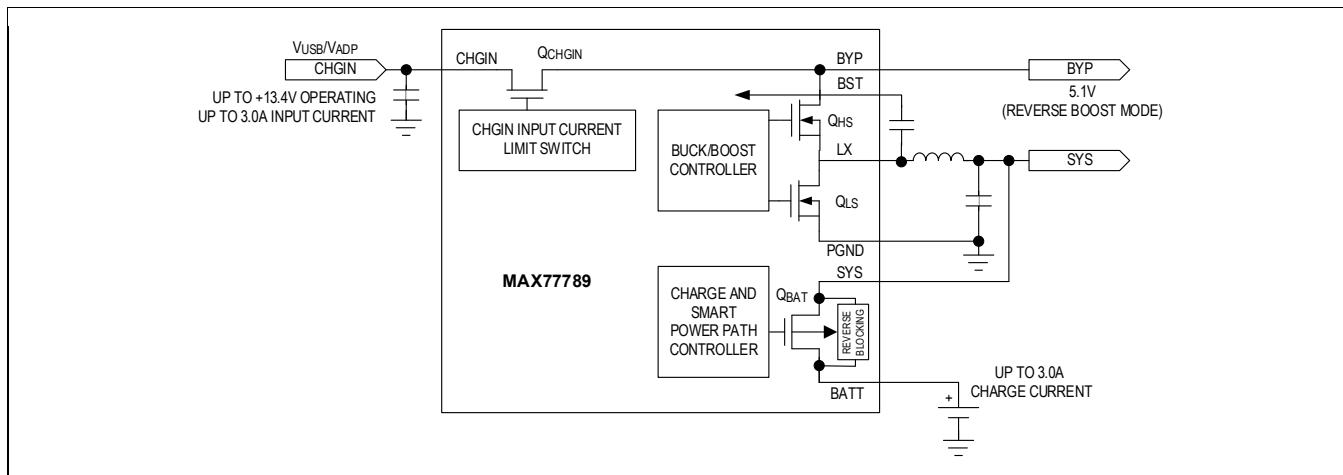
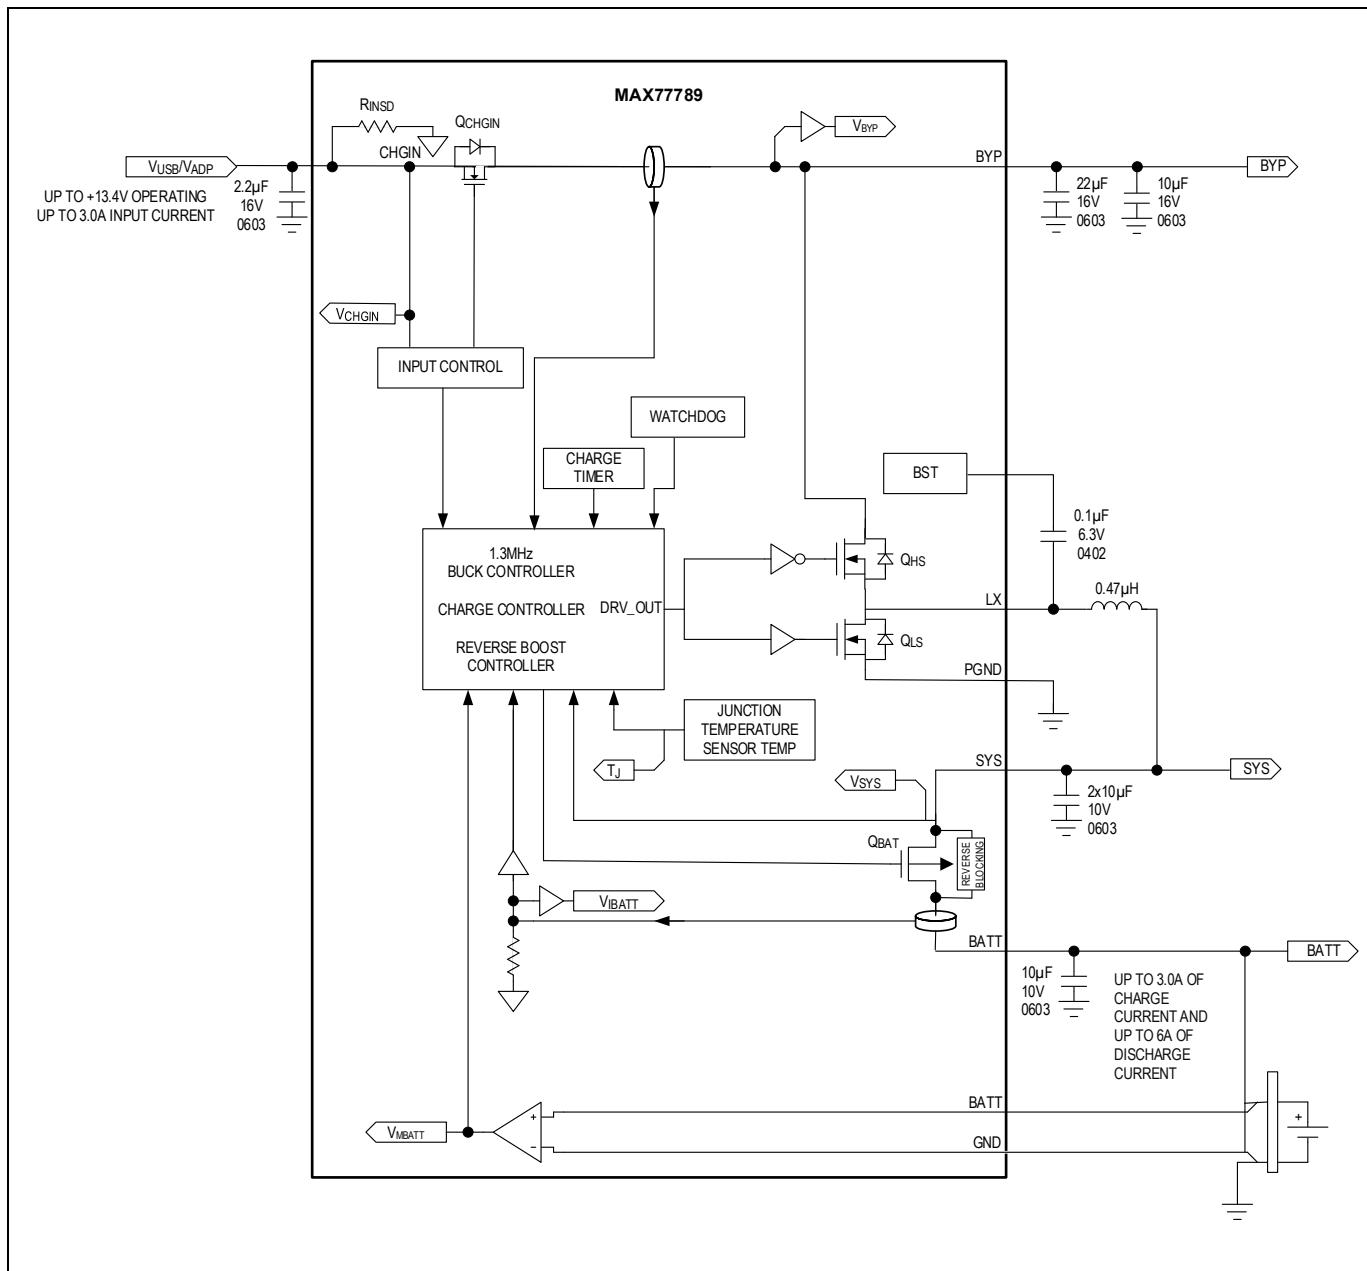

Figure 1. Simplified Functional Diagram
Figure 2. Main Battery Charger Detailed Functional Diagram
The IC is a switch-mode charger for a one-cell lithium-ion (Li+), and lithium polymer (Li-polymer), or LiFePO₄ battery. As shown in Figure 2, the current limit for CHGIN input is configured allowing the flexibility to connect to either an AC-to-DC wall charger or a USB port.
Figure 1 shows a simplified arrangement for the smart power selector's power steering switches. Figure 2 shows a more detailed arrangement of the smart power selector switches and with the following names: QCHGIN, QHS, QLS, and QBAT.
- CHGIN Input Switch: Q_{CHGIN} provides the input overvoltage protection of +16V. The input switch is either completely on or completely off. As shown in Figure 2, there are SPS control loops that monitor the current through the input switches as well as the input voltage.